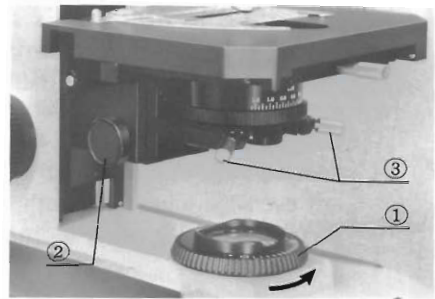

Fig. 14
- 1) Stop down the field iris diaphragm with knurled ring ① by rotating in the direction of the arrow. (Fig. 14)
- 2) Use the condenser height adjustment knob ② to move the condenser up and down until an image of the field diaphragm can be seen clearly in the eyepieces. The rotation of the knob in the direction of the arrow lowers the condenser.
- 3) Bring the field iris diaphragm image into the center of the field of view with the two condenser centering knobs ③. (Fig. 14)